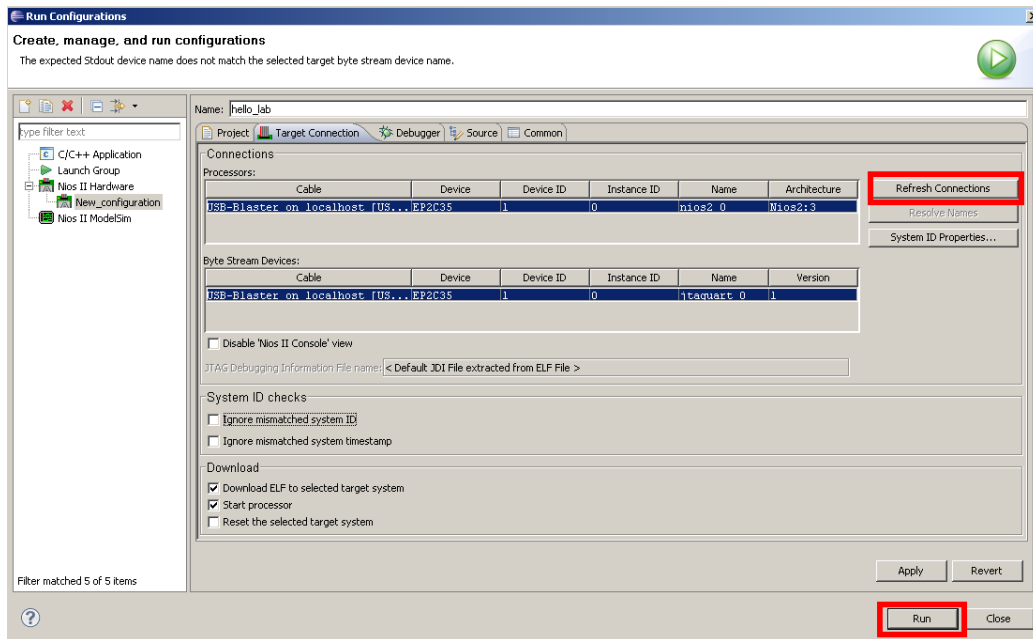

Figure 3.4: The Target Connection tab of configuring application execution
4. Now change to the “**Target Connection**” tab. As shown in Figure 3.4, select “**USB-Blaster**” for the **Processor** and **Byte Stream Device**. If **USB-Blaster** is not displayed, make sure the board is connected to the computer with the provided SOF file correctly downloaded onto it and click **Refresh**. Now click “**Run**” on the lower right corner. If code in the project has changed, the project may be re-built before being loaded onto the processor.